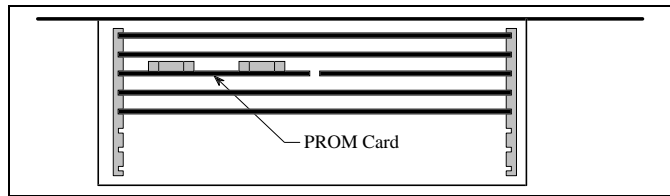

Figure 5 - Location of PROM Card in Older Computer
4. Remove the PROM Card (see Figure 5) by pulling on the two tabs fastened to the front edge of the card. (This is a three-handed operation - observe standard handling practices for static sensitive components.)